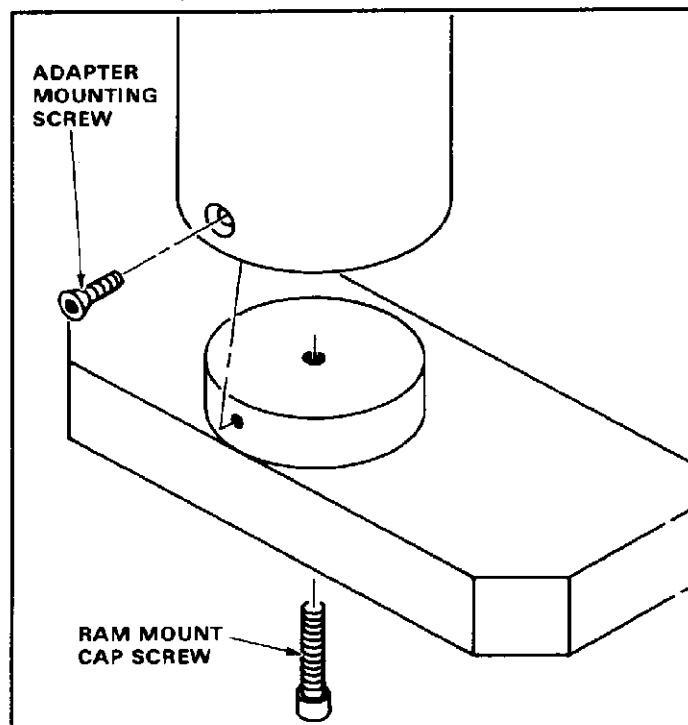

Fig. 3
4. SETUP PROCEDURE (Figures 3 and 4)